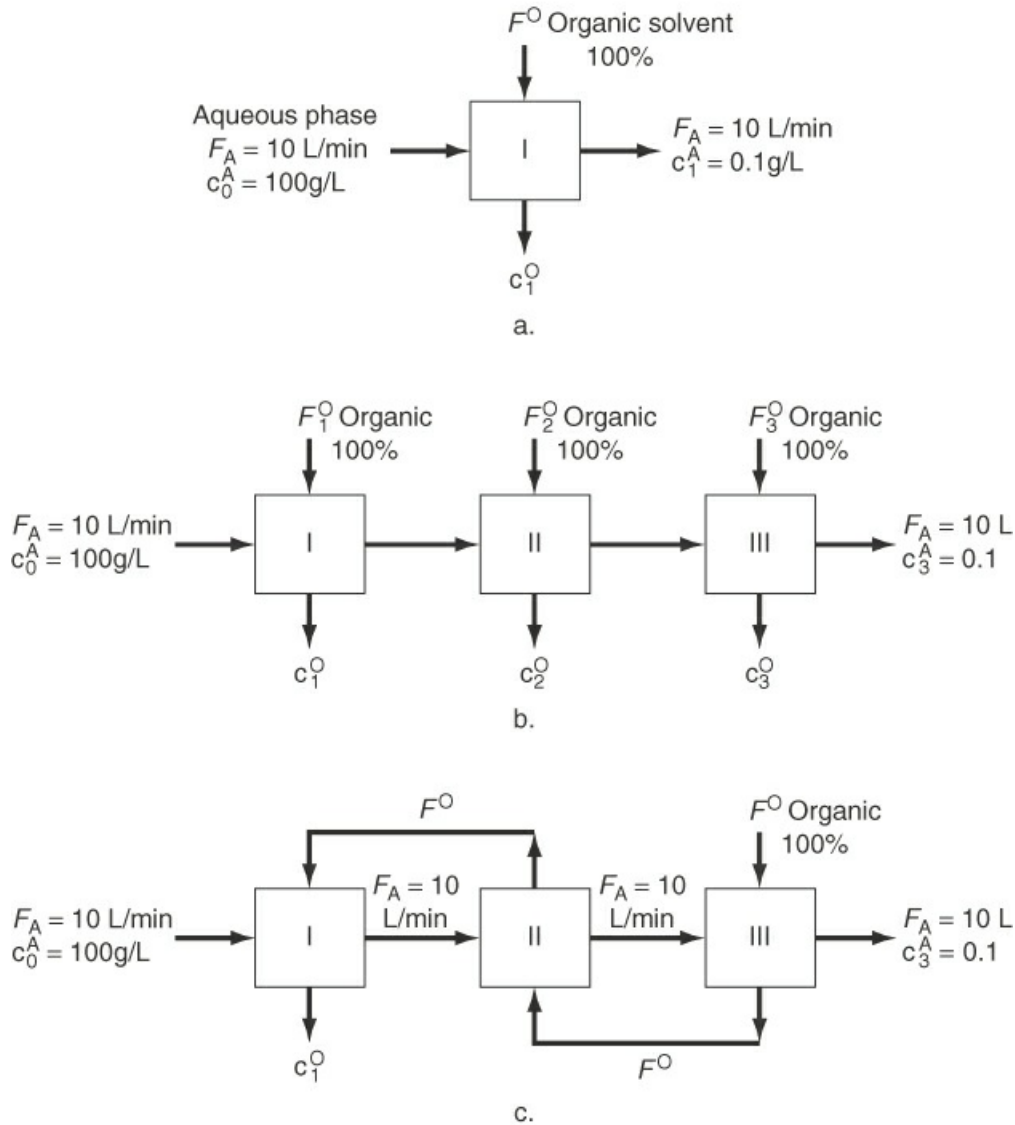

Figure P5.3.17
***5.3.17 This problem is based on the data of G. F. Payne [“Bioseparations of Traditional Fermentation Products,” in *Chemical Engineering Problems in Biotechnology*, edited by M. L. Schuler, American Institute of Chemical Engineers, New York (1989)]. Examine Figure P5.3.17. Three separation schemes are proposed to separate the desired fermentation products from the rest of the solution. Ten liters per minute of a broth containing 100 g/L of undesirable product are to be separated so that the concentration in the exit waste stream is reduced to (not more than) 0.1 g/L. Which of the three flowsheets requires the least fresh pure organic solvent? Ignore any possible density changes in the solutions. Use equal values of the organic solvent in